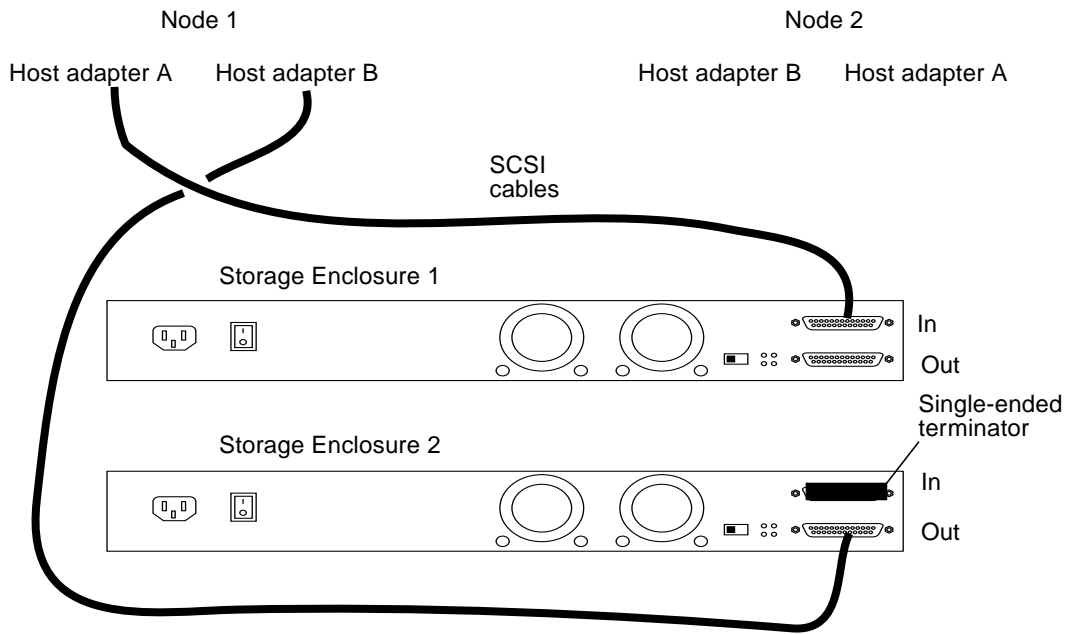

FIGURE D-5 Example of a Netra D130/StorEdge S1 enclosures mirrored pair
4. Connect the appropriate SCSI cable between the node and the Netra D130/StorEdge S1 enclosures, as shown in FIGURE D-5.
5. Temporarily install an appropriate terminator on the SCSI IN port of the *second* Netra D130/StorEdge S1 enclosures, as shown in FIGURE D-5.